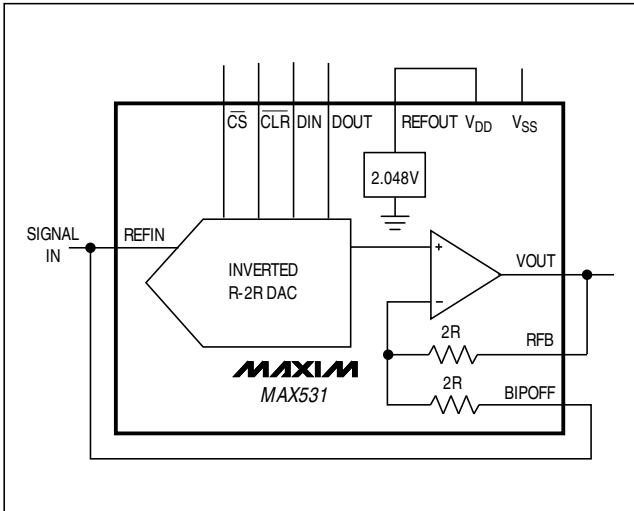

Figure 9. MAX531 Connected as Four-Quadrant Multiplier. The unused REFOUT is connected to VDD.
The MAX531 can be used as a four-quadrant multiplier by connecting BIPOFF to REF and RFB to VOUT, using (1) an offset binary digital code, (2) bipolar power supplies, using dual power supplies, and (3) a bipolar analog input at REF within the range $V_{SS} + 2\text{V}$ to $V_{DD} - 2\text{V}$, as shown in Figure 9.